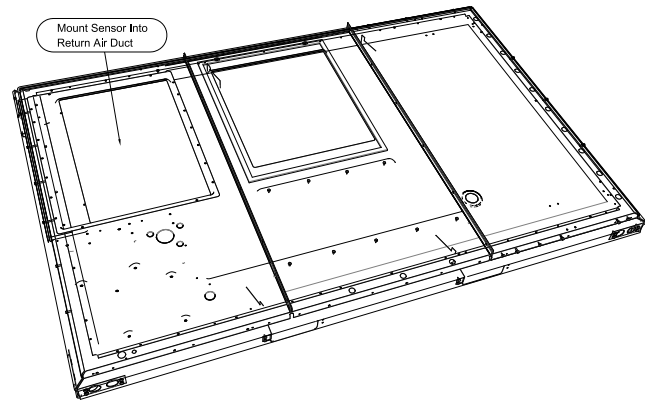

FIGURE 10 - 3-12.5 TON HUMIDITY SENSOR LOCATION
8. Mount sensor in the Return Air section of the unit or in the Return Air ductwork as shown in Figure 10.